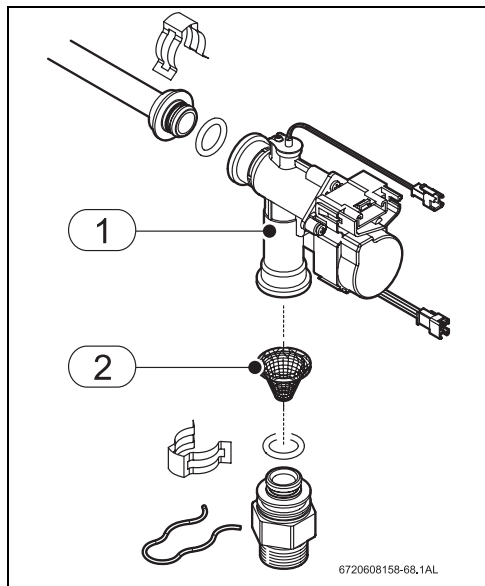

Fig. 55
- Dismantle the cold water inlet pipe, see Fig. 55 .